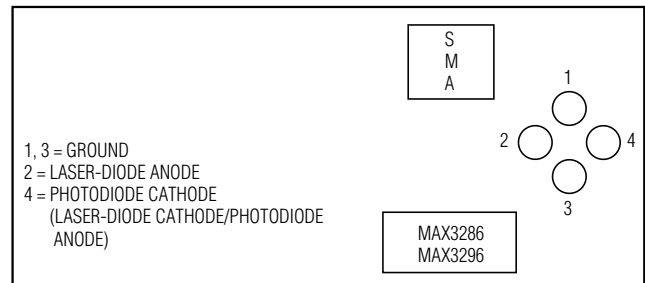

Figure 1. Optical Connection Diagram
- 2) Make sure nothing is installed in the laser socket (Figure 1).
- 9) Place jumpers across JU2 (EN), JU3 ($\overline{\text{EN}}$), and JU4 (PORDLY).
- 10) If you intend to power the board from a +5V supply, place a jumper across JU1 (LV). **Do not apply power yet.**
- 4) Connect a laser to the board (Figure 1).
- 9) Place jumpers across JU2 (EN), JU3 (\overline{EN}), and JU4 (PORDLY).